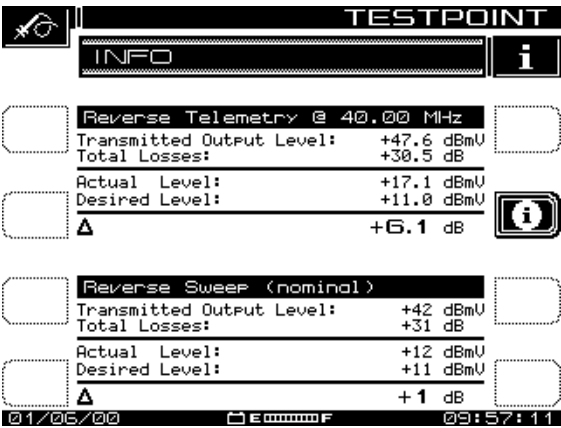

Fig. 4-4 Telemetry and Sweep Generation and Injection Levels
Press this soft key to call up the TESTPOINT INFO screen shown in Fig. 4-4. This screen provides information for telemetry and sweep about transmitted output levels, total losses, and actual and desired levels and the delta between them.
5. The telemetry and sweep generation and injection levels are displayed in the TESTPOINT INFO screen (see Fig. 4-4). The generated levels are calculated based on the desired system levels set at the main SWEEP configuration menu (see "Sweep Configuration" on page 64), and the test point losses entered here. The telemetry level is calculated precisely for a specific frequency and level. This value can be used with the headend display to perform absolute level alignment, so it is calculated to 0.1dB resolution.